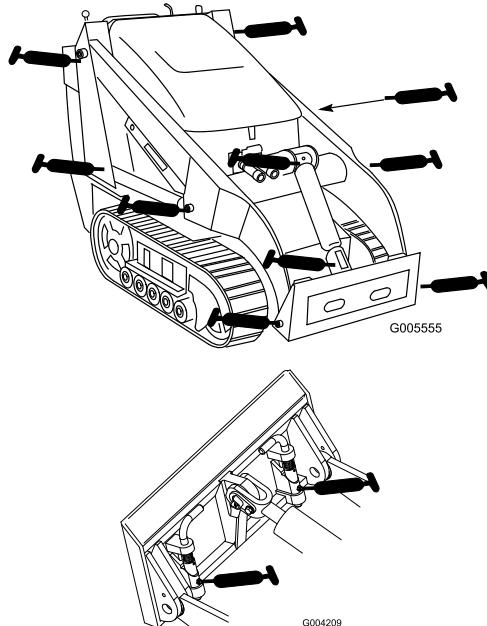

Figure 29
3. Connect a grease gun to each fitting (Figure 29).